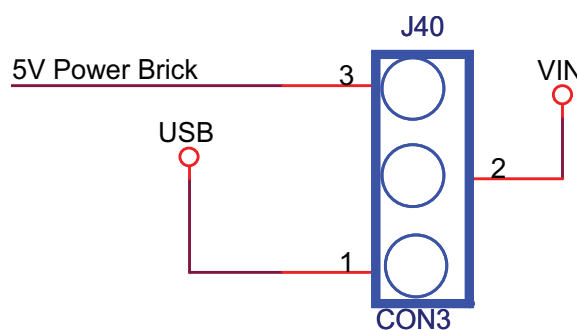

Figure 4-1 • Power Source Jumper Schematic
3. Set power source jumper (J40) to connect pins 1 and 2. Connecting pins 1 and 2 will select USB as the power source. Attach one end of the USB cable to the USB interface of the board and the other end to a PC (Figure 4-1).